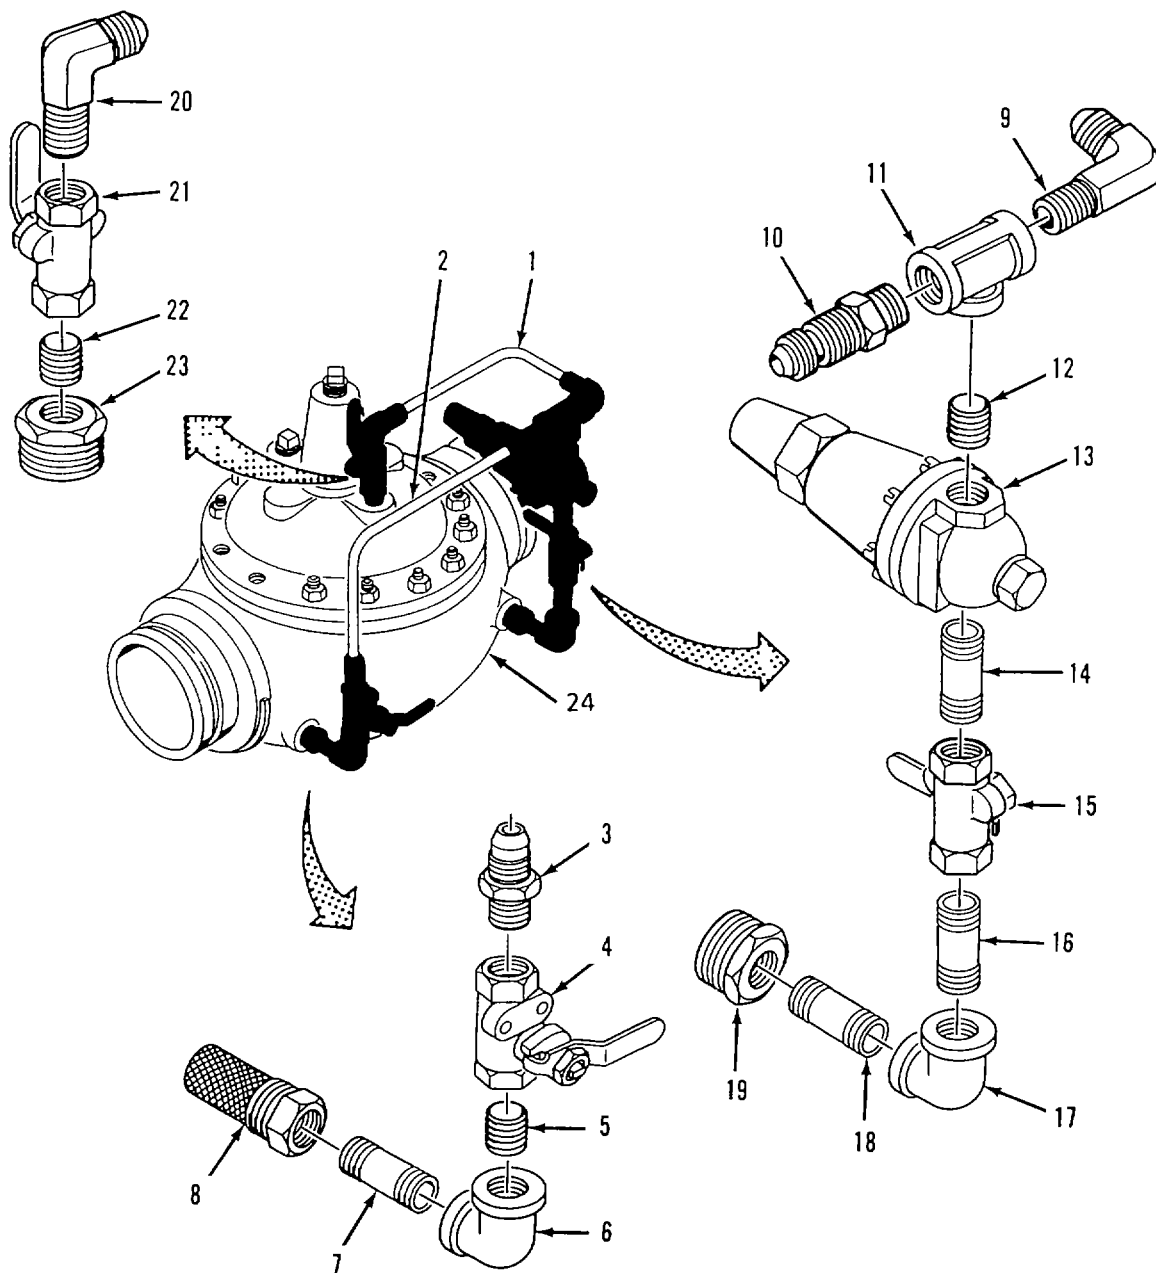
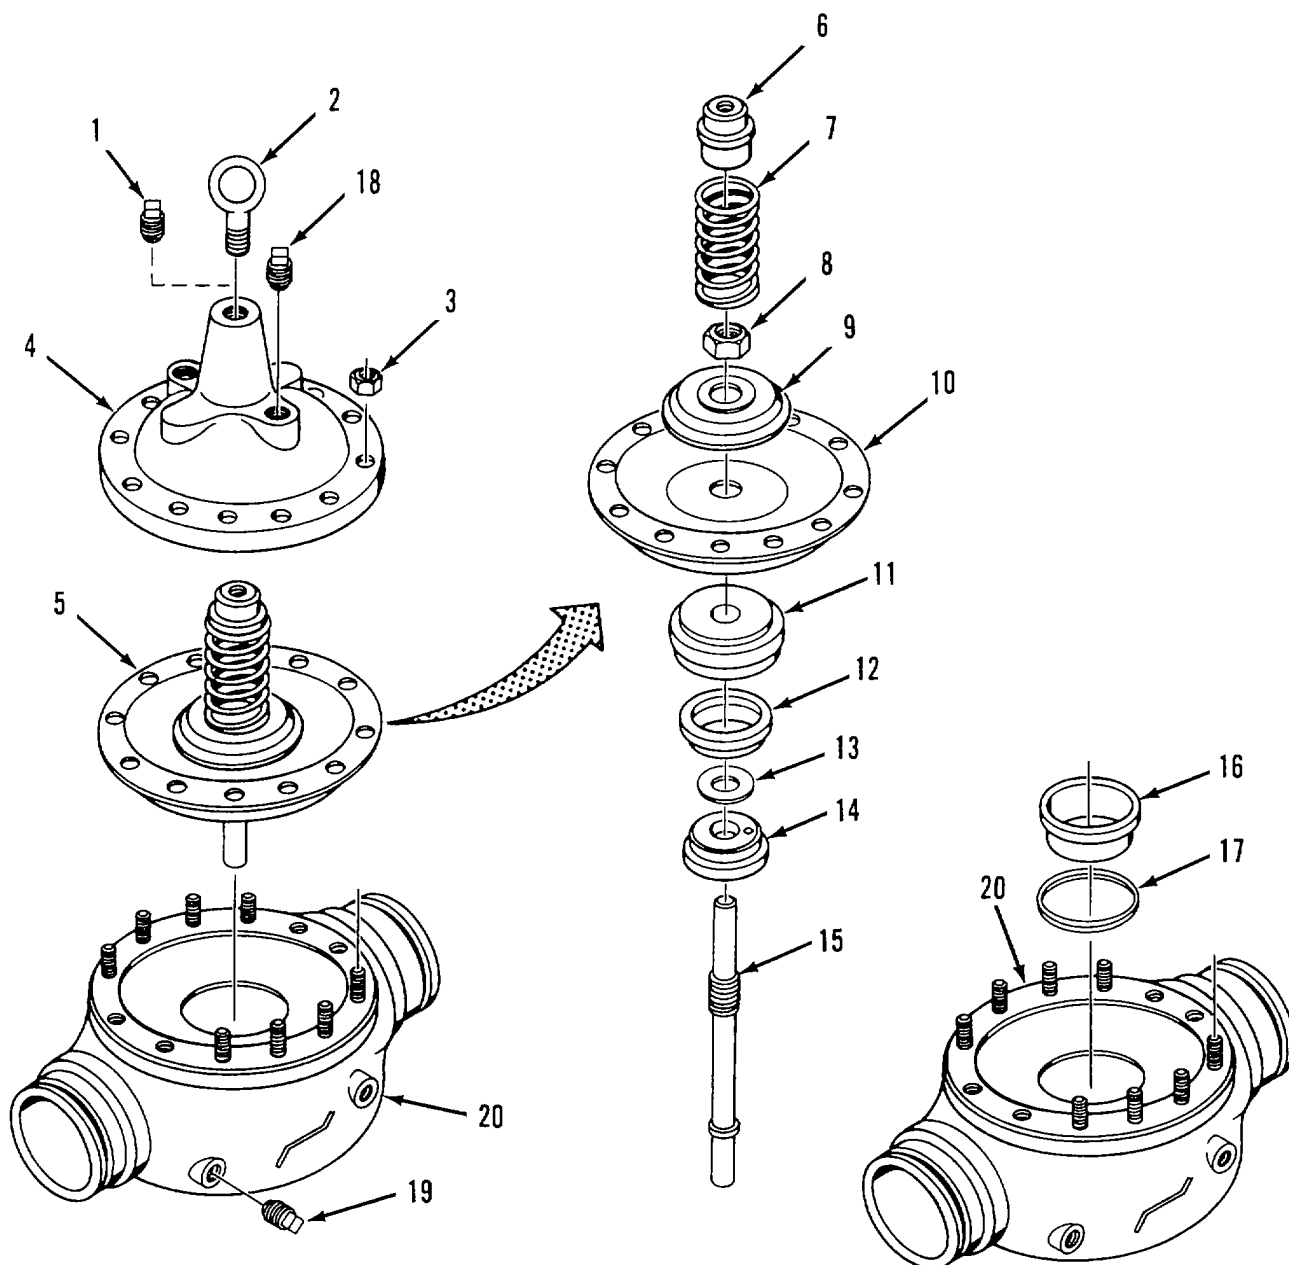

Figure 4-18. Pressure Regulating Valve Piping Removal.
Figure 4-19. Pressure Regulating Valve Disassembly.
To aid disassembly, loosen eight nuts (3, figure 4-19) on cover before removing pressure regulating valve from frame.
*Disassemble Inlet. Piping Refer to figure 4-18.*
- (6) Disconnect both ends of line (1) and remove from valve (24).
- (7) Disconnect both ends of line (2) and remove from pressure regulating valve (24).
- (8) Unscrew connector (3) from valve (4).
- (9) Turn handle of valve (4) in line with valve body (open position).
- (10) Unscrew valve (4) from 1-inch nipple (5).
- (11) Unscrew 1-inch nipple (5), elbow (6), 2-inch nipple (7) and strainer (8) from pressure regulating valve (24).
*Disassemble Outlet Piping. Refer to figure 4-18.*
- (12) Unscrew elbow (9) and restrictor (10) from tee (11).
- (13) Unscrew 1-inch nipple (12) and regulating valve (13) from 3-inch nipple (14).
- (14) Turn handle of valve (15) in line with valve body (open position).
- (15) Unscrew 3-inch nipple (14), valve (15), and 2 1/2-inch nipple (16) from elbow (17).
- (16) Unscrew elbow (17), 1 1/2 inch nipple (18) and bushing (19) from pressure regulating valve (24).
*Disassemble Bypass Piping. Refer to figure 4-18.*
- (17) Turn handle of valve (21) in line with valve body (open position).
- (18) Unscrew elbow (20) and valve (21) from 1-inch nipple (22).
- (19) Unscrew 1-inch nipple (22) and bushing (23) from pressure regulating valve (24).
*Disassemble Pressure Regulating Valve. Refer to figure 4-19.*
- (20) Mark and record alinement of cover (4) with body (20).
- (21) Remove plug(l) from cover (4).
- (22) Screw 3/4-inch eyebolt (2) into hole in cover (4).
- (23) Connect lifting device to eyebolt (2).
- (1) Inspect body (20, figure 4-19) for cracks, corrosion and stripped or damaged threads.
- (2) Inspect stem (15) for cracks, scratches or damaged threads.
- (3) Inspect cover bearing (6), disc retainer (11), disc guide (14) and seat (16) for cracks, corrosion and deep scratches.
- (4) Inspect all threaded piping components (figure 4-18) for cracks and stripped or damaged threads.
- d. Repair. Replace damaged parts and all sealing components. Do not reuse diaphragm (10, figure 4-19), disc (12) or packing (17).
- (31) Position bracket (6) on top of pressure regulating valve (9) as shown.
- (32) Install bracket (6), two flat washers (5) and bolts (4) into top of pressure regulating valve (9).